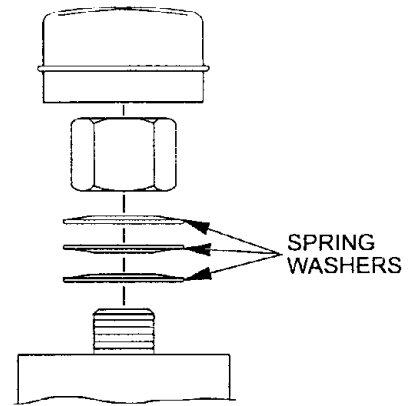

FIG. 12
- a) Remove dust cap from caster and tighten nylock nut until washers are flat and back off 1/4 of a turn to properly set the preload on the bearings. Make sure the spring washers are installed as shown in Figure 12.